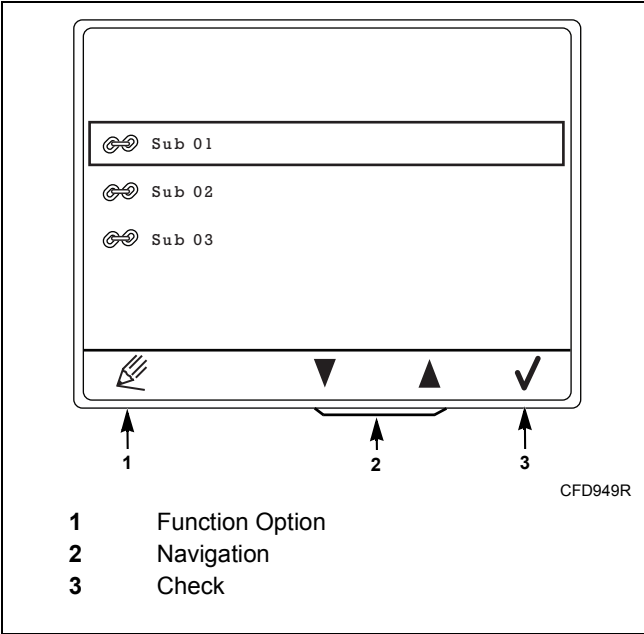

Figure 40
1. Select a subroutine to edit by pressing the keypads below the Navigation icons. Refer to *Figure 40*.
2. Press the keypad below the Function Option to change the function. Refer to *Figure 40* and *Table 15*.
3. Press the keypad below the Check icon to confirm the function. Refer to *Figure 40*.